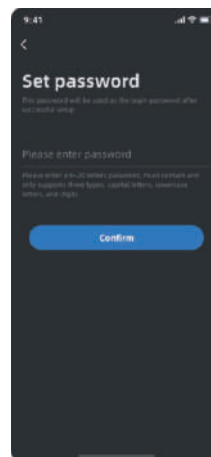

Figure 6
6)Figure 6: Enter the required password and click "Confirm" to complete the registration.